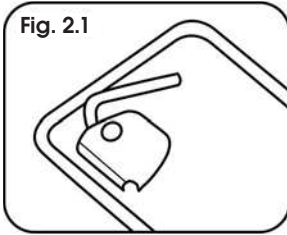

Fig. 2.1
- ✿ Place the start unit against the handle, see figure 2.1